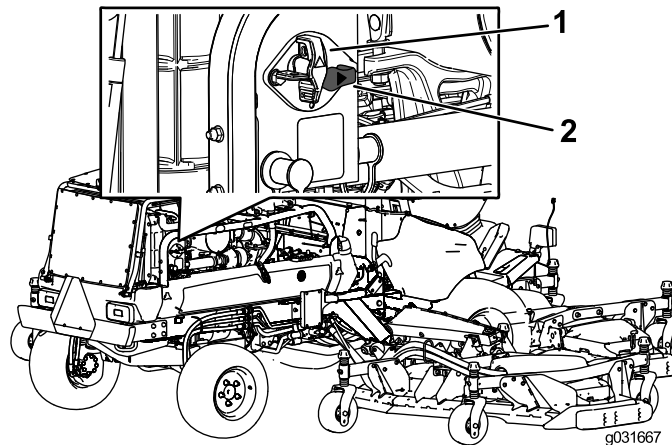

Figure 2
5. Rotate the battery-disconnect switch to the OFF position (Figure 2).